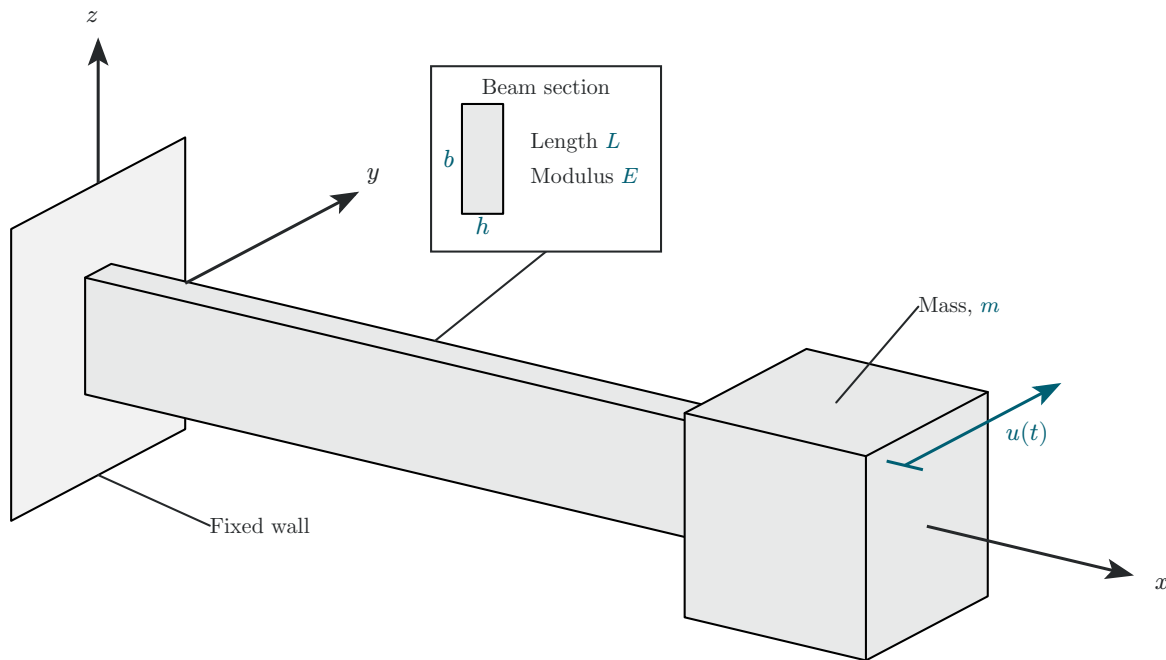

Figure 16: Horizontal flex-beam vibrating system.
Consider a cantilever beam of length L with a mass m attached at its tip as shown in Figure 16. The beam cross-section properties are E , h , b .
- (1) Assume vibration with horizontal time-varying displacement $u(t)$ as shown in Figure 16.
- (2) Calculate the cross-sectional stiffness EI of the beam for flexural deformation consistent with $u(t)$.
- (3) Calculate the flex-beam spring constant k .
- (4) Draw free-body diagram (FBD) including all the forces acting on the mass m .
- (5) Deduce equation of motion (EOM).
- (6) Compare the EOM deduced here with the EOM derived in Problem B.1.
- (7) Solve the initial value problem (IVP) and find the response for simultaneous application of both initial displacement u_0 and initial velocity $\dot{u}_0$.